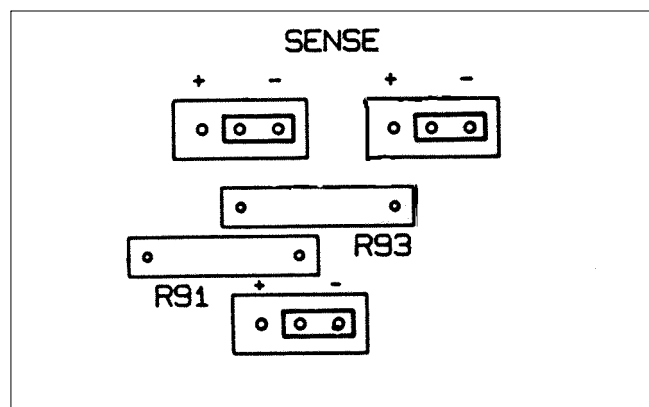

Figure 2-31 SENSE link settings
- f. Connect SENSE links as shown in Figure 2-31 (for klystron operation).